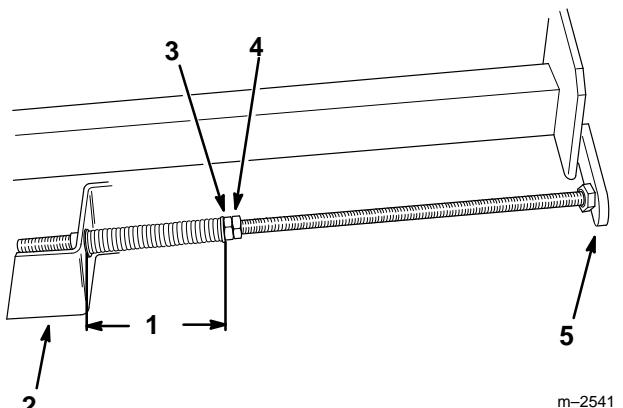

Figure 7
1. 1/2" Jam Nut (2)	5. Adjusting Shaft
5. Insert the spring end of the adjusting shaft into the hole in the deck mounting bracket. Note that the small end of the bushing fits into the hole in the deck bracket. Insert the locknut end of the adjusting shaft into the carrier frame mounting tab (Fig. 7).
6. To tension the belt, tighten the front jam nut on each adjusting shaft until the springs are compressed to 5" (12.7 cm). Measure the spring compression between the spacer and the bushing (Fig. 7).
7. Tighten the rear jam nuts (Fig. 7).